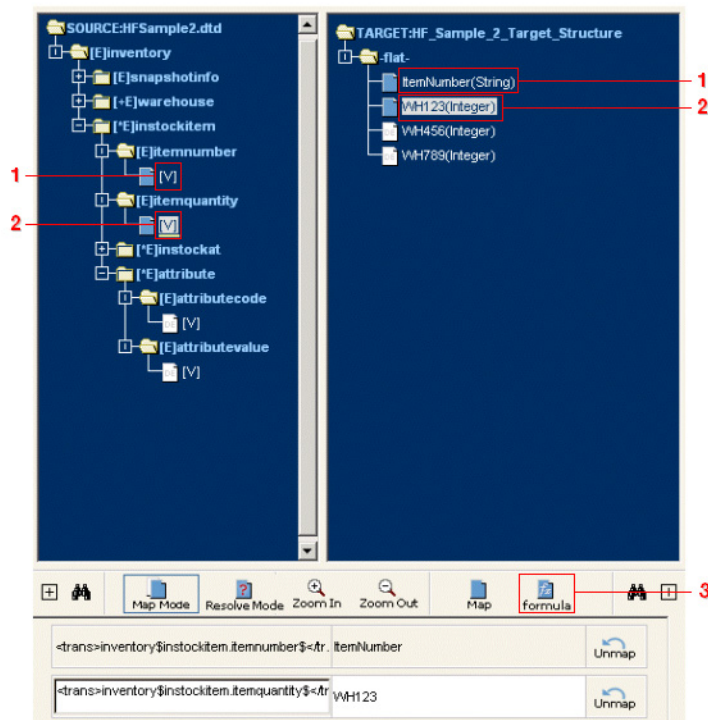

Figure 23-5. Map the itemnumber data elements, then map itemquantity to WH123 and launch the Formula Builder to configure the WH123 data element's settings.
- ❶ Map the source's itemnumber data element to the target's itemnumber.
- ❷ Map the source's itemquantity data element to the target's WH123 data element.
- ❸ WH123's data needs to be qualified. Select the target's WH123 data element and click the **Formula** button to launch the Formula Builder (see Figure 23-5 below).